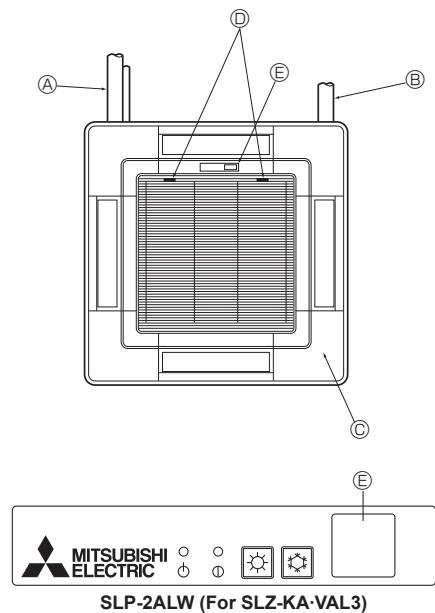

Fig. 8-11
8.5. Installing the intake grille (Fig. 8-11)
- ④ Refrigerant piping of the main unit
- ⑤ Drain piping of the main unit
- ⑥ Corner panel
- ⑦ Position of the levers on the intake grille when sent from the factory.
- ⑧ Receiver (For SLZ-KA-VAL3)